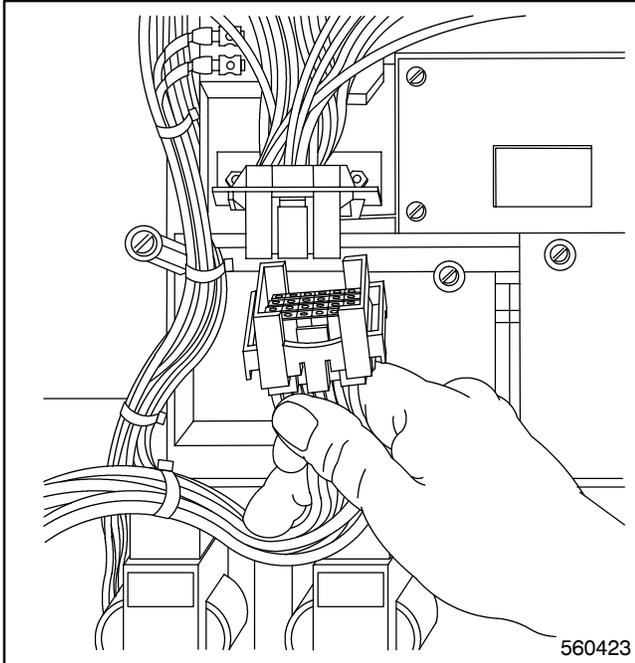

Figure 2-2. In-Line Disconnect Plug
- 1 Engage the in-line disconnect plug by grasping the connectors and pressing them together. See Figure 2-2.